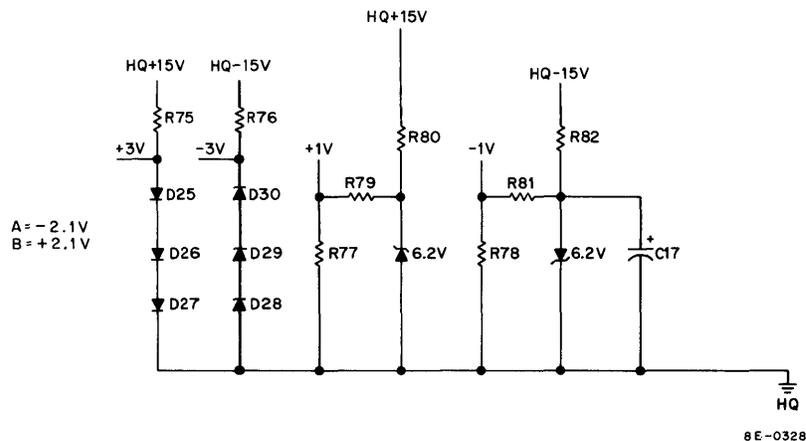

Figure 4-30 AM8-EA Reference Voltages
4.3.2.3 Reference Voltages – The AM8-EA provides ± 1 Vdc and A or B ± 2.1 Vdc reference voltages (see Figure 4-30). The ± 3 Vdc is used by the diodes on the input of the differential amplifiers to limit the input to ± 6 Vdc. The ± 2.1 V is taken off the diodes as shown in Figure 4-30. The diodes and resistors make up voltage divider networks to produce ± 3 V. The ± 1 V reference is generated in the AM8-EA and applied through a cable to the AM8-EC panel, if it is installed, for parameter potentiometers. The ± 1 V is produced by a voltage divider network made up of a 6.2V Zener and resistors. The ± 15 V HQ power is supplied to the voltage dividers from the H851 Edge Connector.